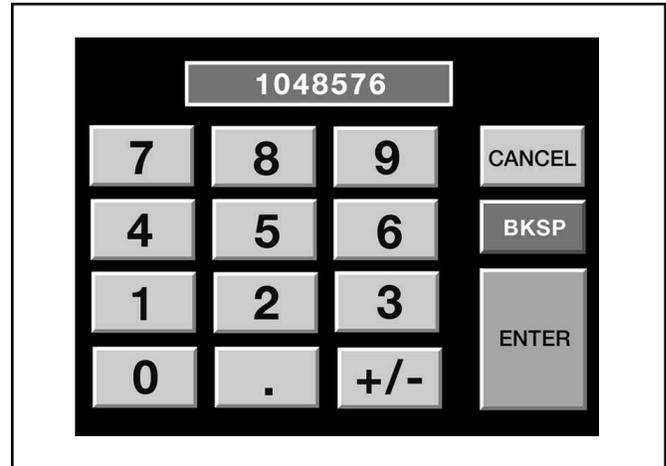

Figure 6.2 - Numeric Keypad
1. **“Feedback Resolution” Parameter** – Set this parameter to the appropriate feedback resolution for you servomotor and servoamplifier. For *PosiDrive* servomotors and servoamplifiers, the feedback resolution is usually 1,048,576 counts per revolution (2 to the 20th power). Touching the **“Feedback Resolution”** box will pop up a Numeric Keypad that you use to enter the desired value. (See Figure 6.2)
2. **“Ratio A” Parameter** – Set this parameter in conjunction with the **“Ratio B”** parameter described below to show the gear ratio of your application. This parameter corresponds to the number of turns the input shaft makes in relation to the output shaft. In the case of a 20:1 gear reducer **“Ratio A”** would be set to 20. Touching the **“Ratio A”** box will pop up a numeric keypad that you use to enter the desired value. (See Figure 6.2)
3. **“Ratio B” Parameter** – Set this parameter in conjunction with the **“Ratio A”** parameter described above to show the gear ratio of your application. This parameter corresponds to the number of turns the output shaft makes in relation to the input shaft. In the case of a 20:1 gear reducer **“Ratio B”** would be set to 1. Touching the **“Ratio B”** box will pop up a numeric keypad that you use to enter the desired value. (See Figure 6.2)